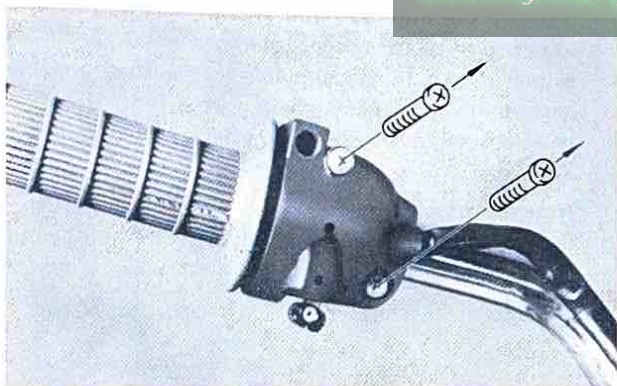

Fig. 26
19. Remove the two setting screws holding the right hand handle switch assembly, and separate the switch assembly. (Fig. 26)